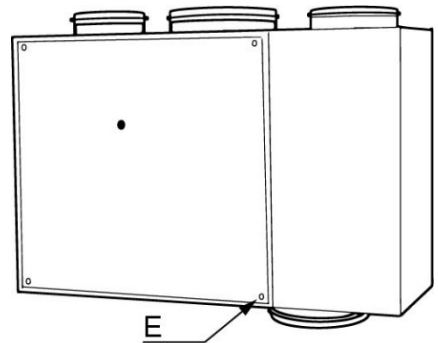

Figure 2
- Unscrew the four screws (E), which stay in place and carefully remove the hatch, figure 2.